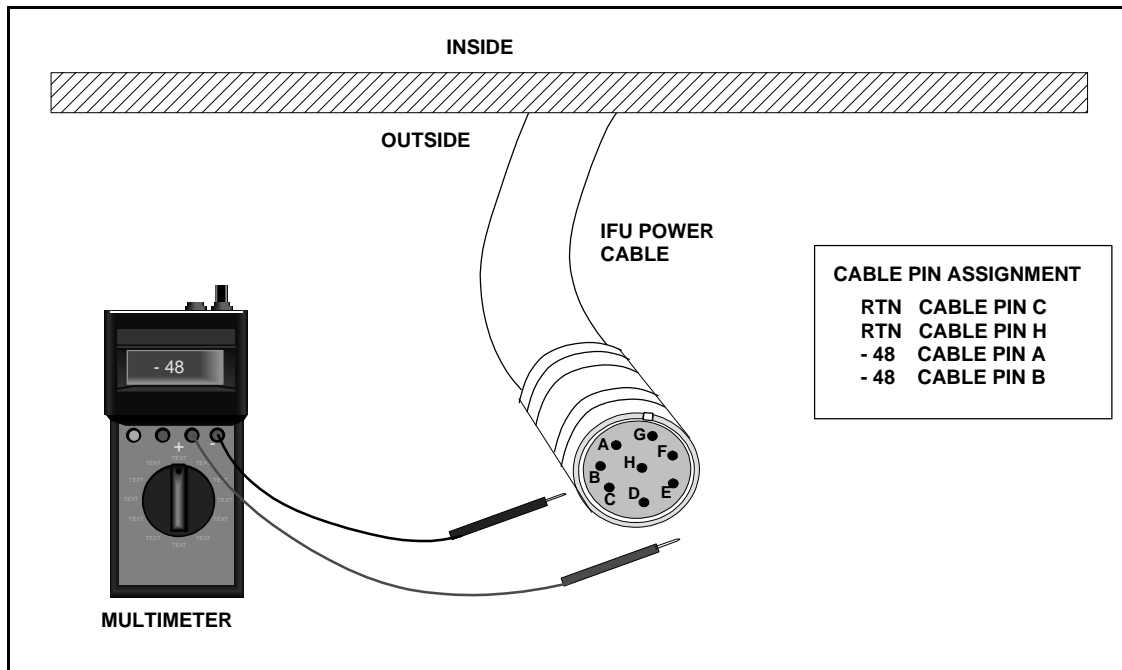

Figure 3-5. Power Test Setup
- 3 At the mounting location, connect a black test lead from the **negative** input of the multimeter to pin **C** on the power cable (see Figure 3-5).